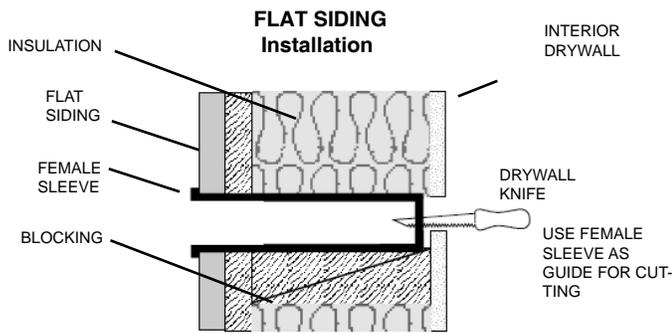

FIGURE 2
2.1.4 After the drywall has been installed, cut the opening for the male sleeve with a hand drywall knife, following the interior of the female sleeve as a guide. See figure 2.